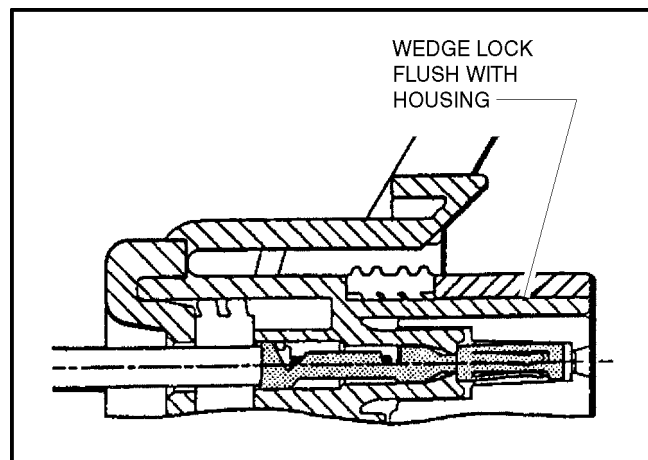

Figure 7-11. Connector Assembly Figure 4
4. Slide the wedge lock into the housing until it is flush with the housing. (See Figure 7-11.).